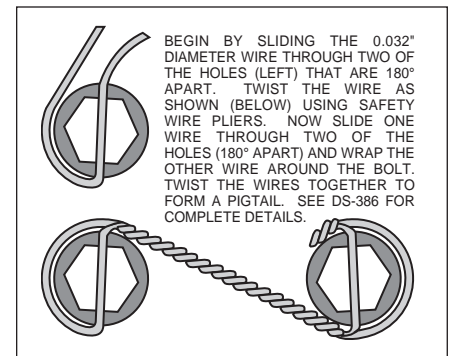

Figure 3. Safety Wire Diagram
- With the larger I.D. side of the rotor (5) facing away from the hat (6), bolt rotor (5) to hat (6) through the backside of the rotor using washers (7) and bolts (8). Using an alternating sequence, apply red *Loctite*® 271 to the threads and torque bolts to 155 in-lb. For an added measure of security, the bolts may be safety wired using standard 0.032 inch diameter stainless steel safety wire as shown in Figure 3. Please refer to Wilwood's data sheet DS-386 (available at www.wilwood.com/Pdf/DataSheets/ds386.pdf) for complete safety wire installation instructions.